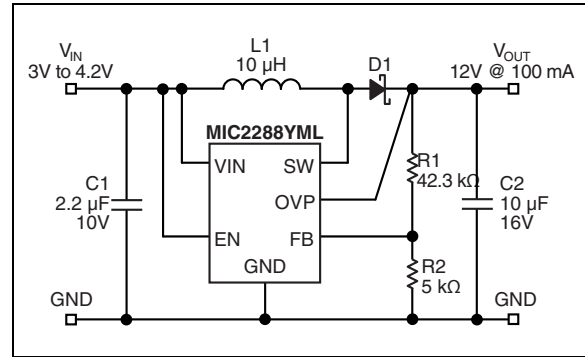

FIGURE 6-3: 3.0V to 4.2V V_{IN} to 12 V_{OUT} @ 100 mA.
- Updated part number L1 (Figure 6-3).
- Updated values for C2 in the table beneath Figure 6-3.